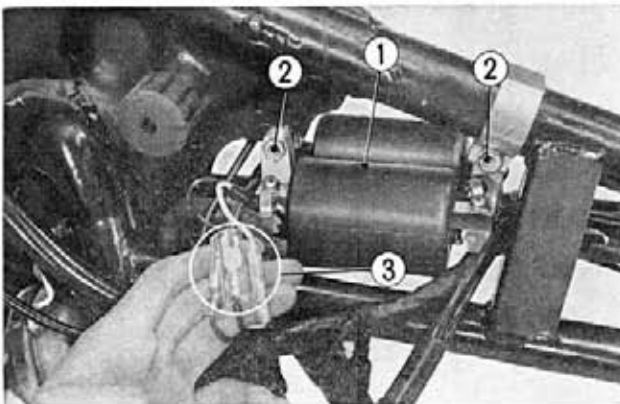

Fig. 7-7 ① Ignition coil ③ Leads connectors
3. Unscrew the two ignition coil mounting bolts and then the ignition coil can be removed from the frame. (Fig. 7-7)